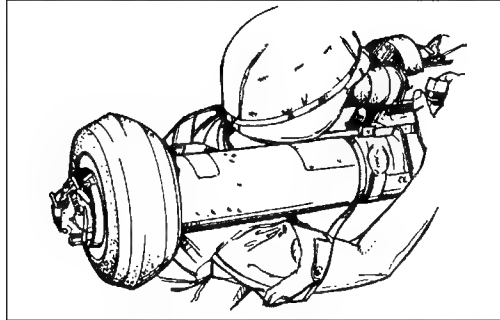

Figure 5-2. Position of round on shoulder.
(2) Lean forward from your waist as far as possible. Pick up the round and place it on the muscle portion of your shoulder, keeping it tight against the curve of your neck (Figure 5-2).